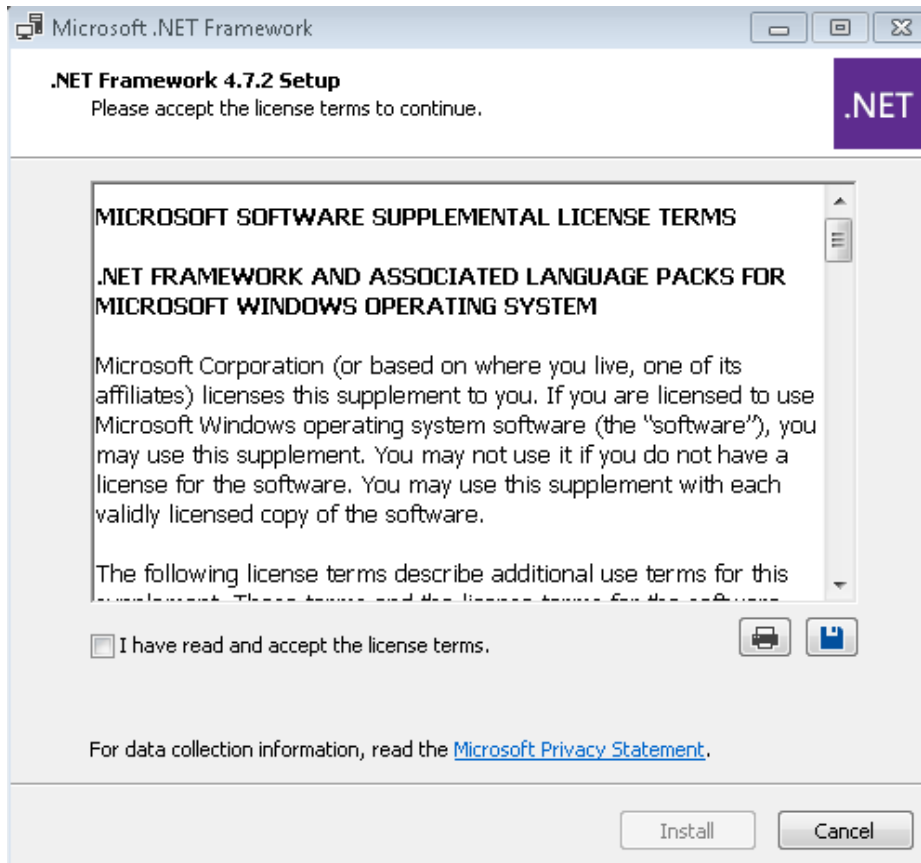

**Figure 9**
- If .NET Framework 4.7.2 is not installed, the following window will be displayed. See Figure 9 overleaf: